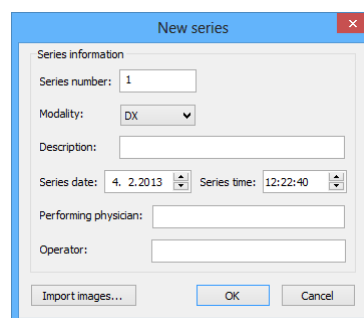

Figure 416 – New series dialog
3. Fill the information concerning the new series into the **New series** dialog (see Figure 416) and click the **OK** button.
3. Fill the information concerning the new series into the **New series** dialog (see Figure 416).